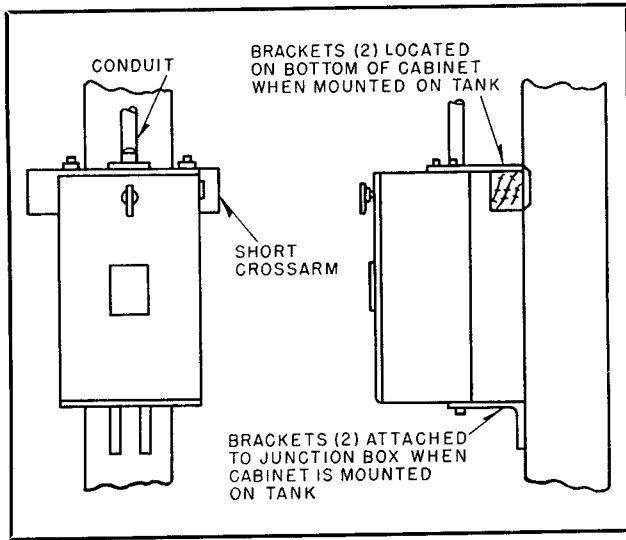

FIG. 10. Control Cabinet Mounted at Base of Pole.
4. Remove the control cabinet brackets. The brackets may now be inverted and used at the new location as shown in Fig. 10.